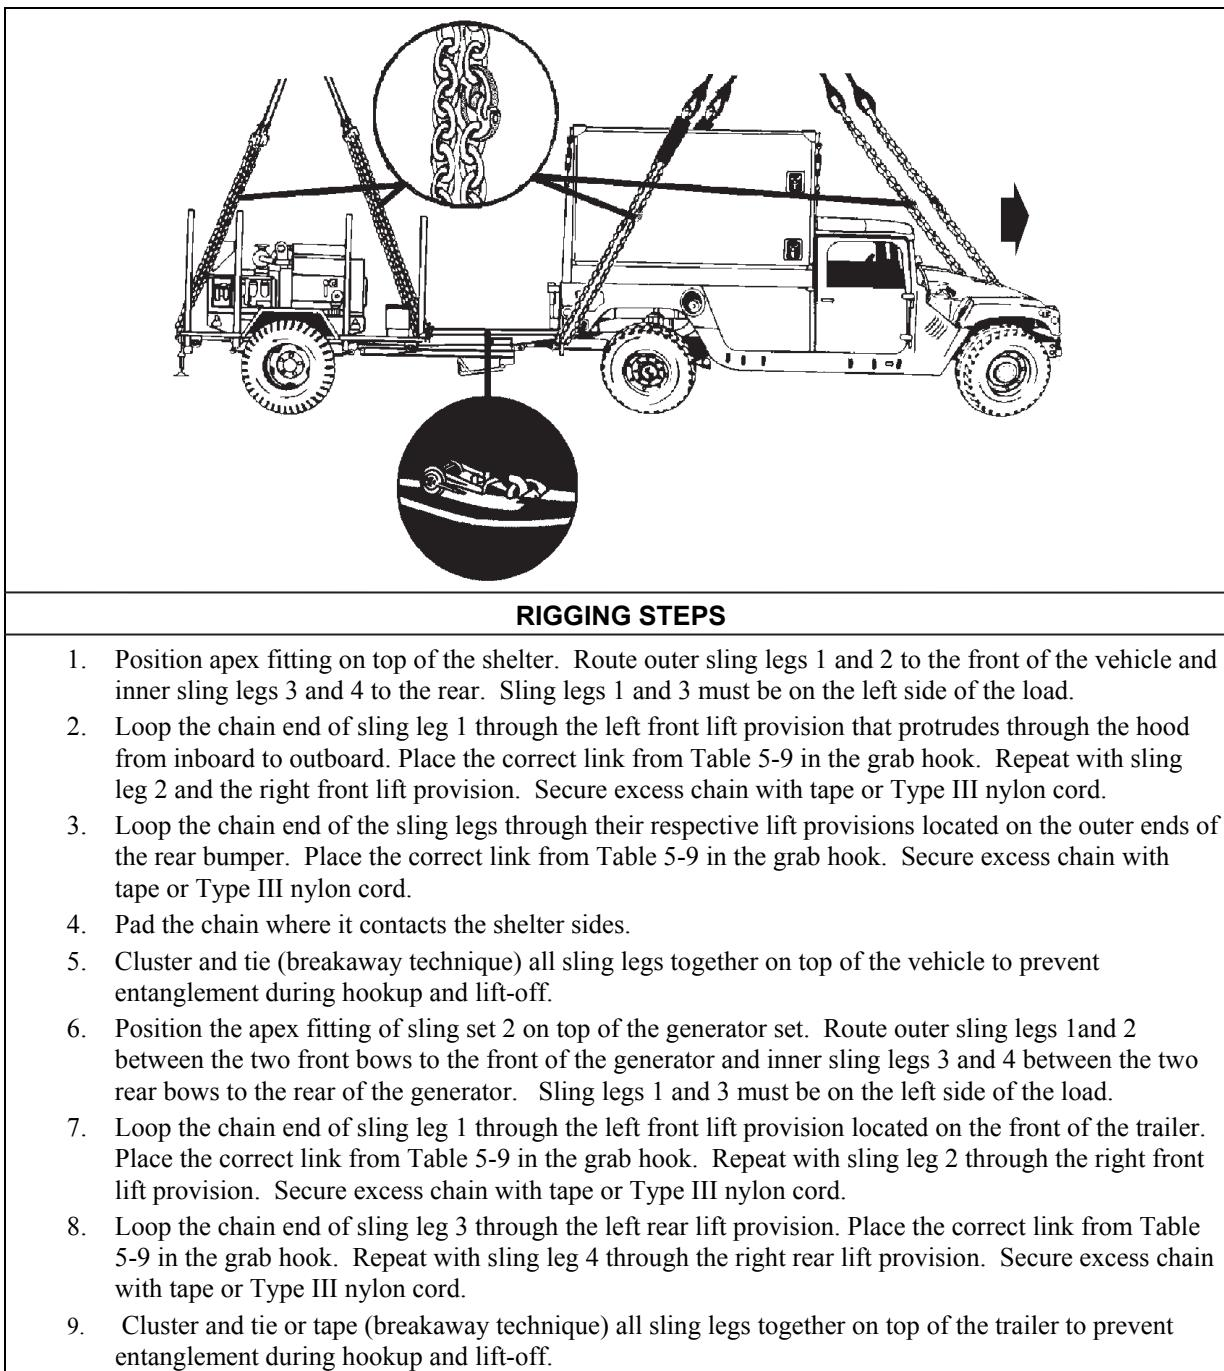

Figure 5-9. M1097 Shelter Carrier (HMMWV) with S-250 Shelter and Trailer Generator Sets on M116A2 Trailer
- **Rigging.** Rig the load according to the steps in Figure 5-9.